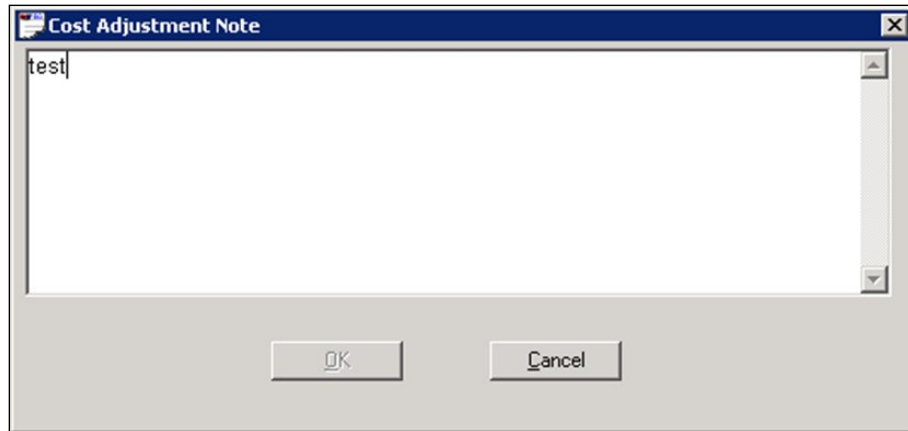

Figure 3-9: Cost Adjustment Note
- ii. Click the NOTE button. Enter your Adjustment notes in the Cost Adjustment Note window (Figure 3-9). Click the OK button to save your text.